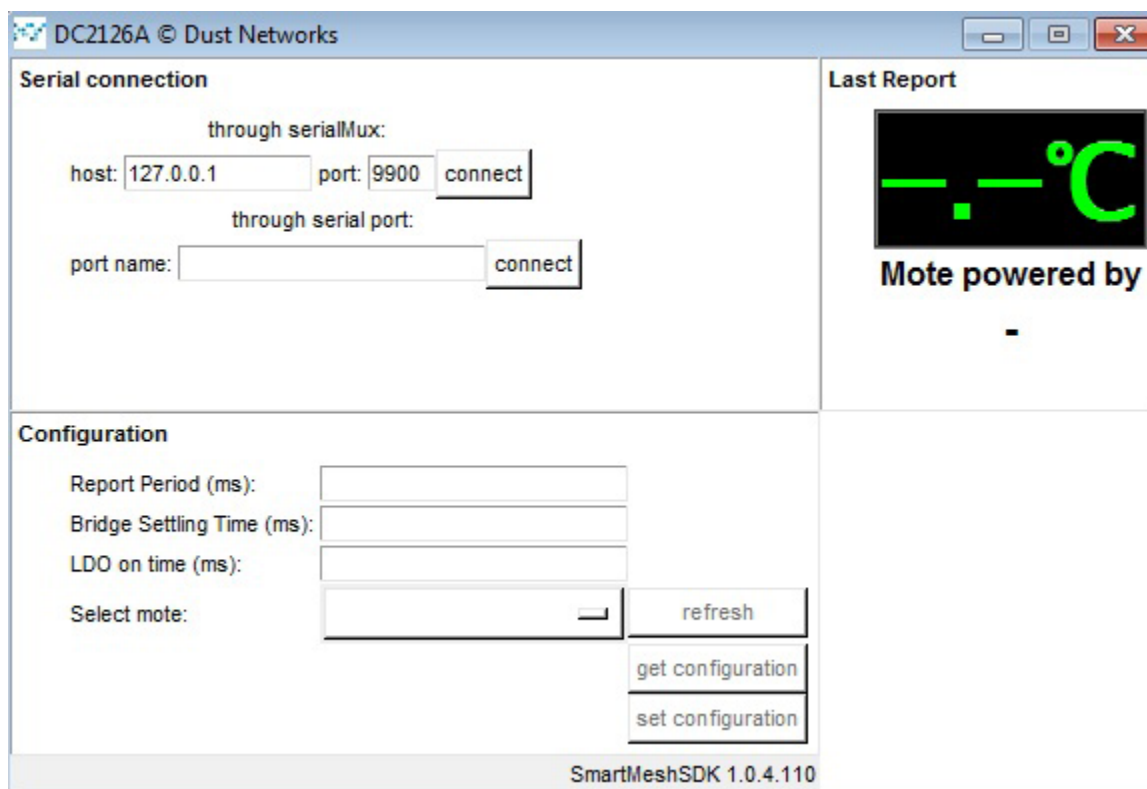

Figure 1. DC2126A GUI Window
4. Open the *DC2126A.exe* GUI – you will see a window similar to that shown in Figure 1.